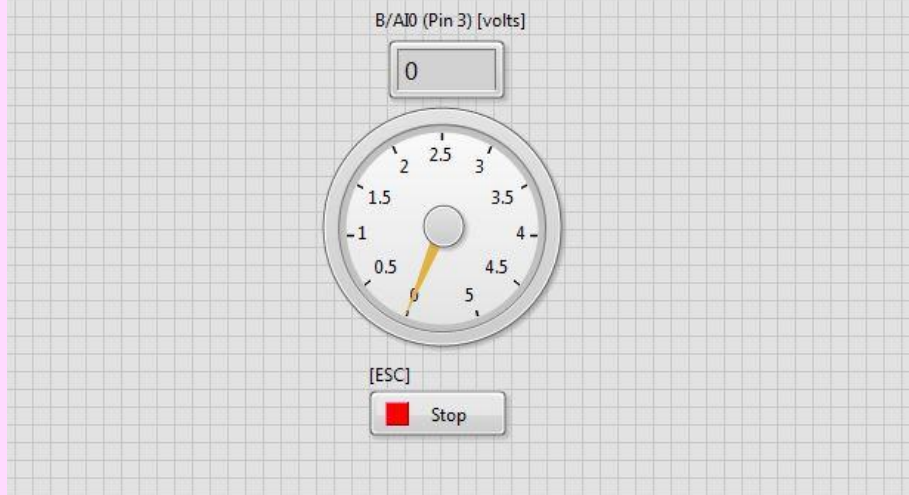

Figure 1: Potentiometer Demo Front Panel
**Step 2:** Open the Potentiometer demo folder and the potentiometer project (Potentiometer demo.lvproj). Open the VI titled "Main.vi". On the front panel should be two numeric indicators. One will display a distinct numerical value, and the other should be a rotating dial indicator. Both indicate the voltage being read at AI0 (Figure 1).